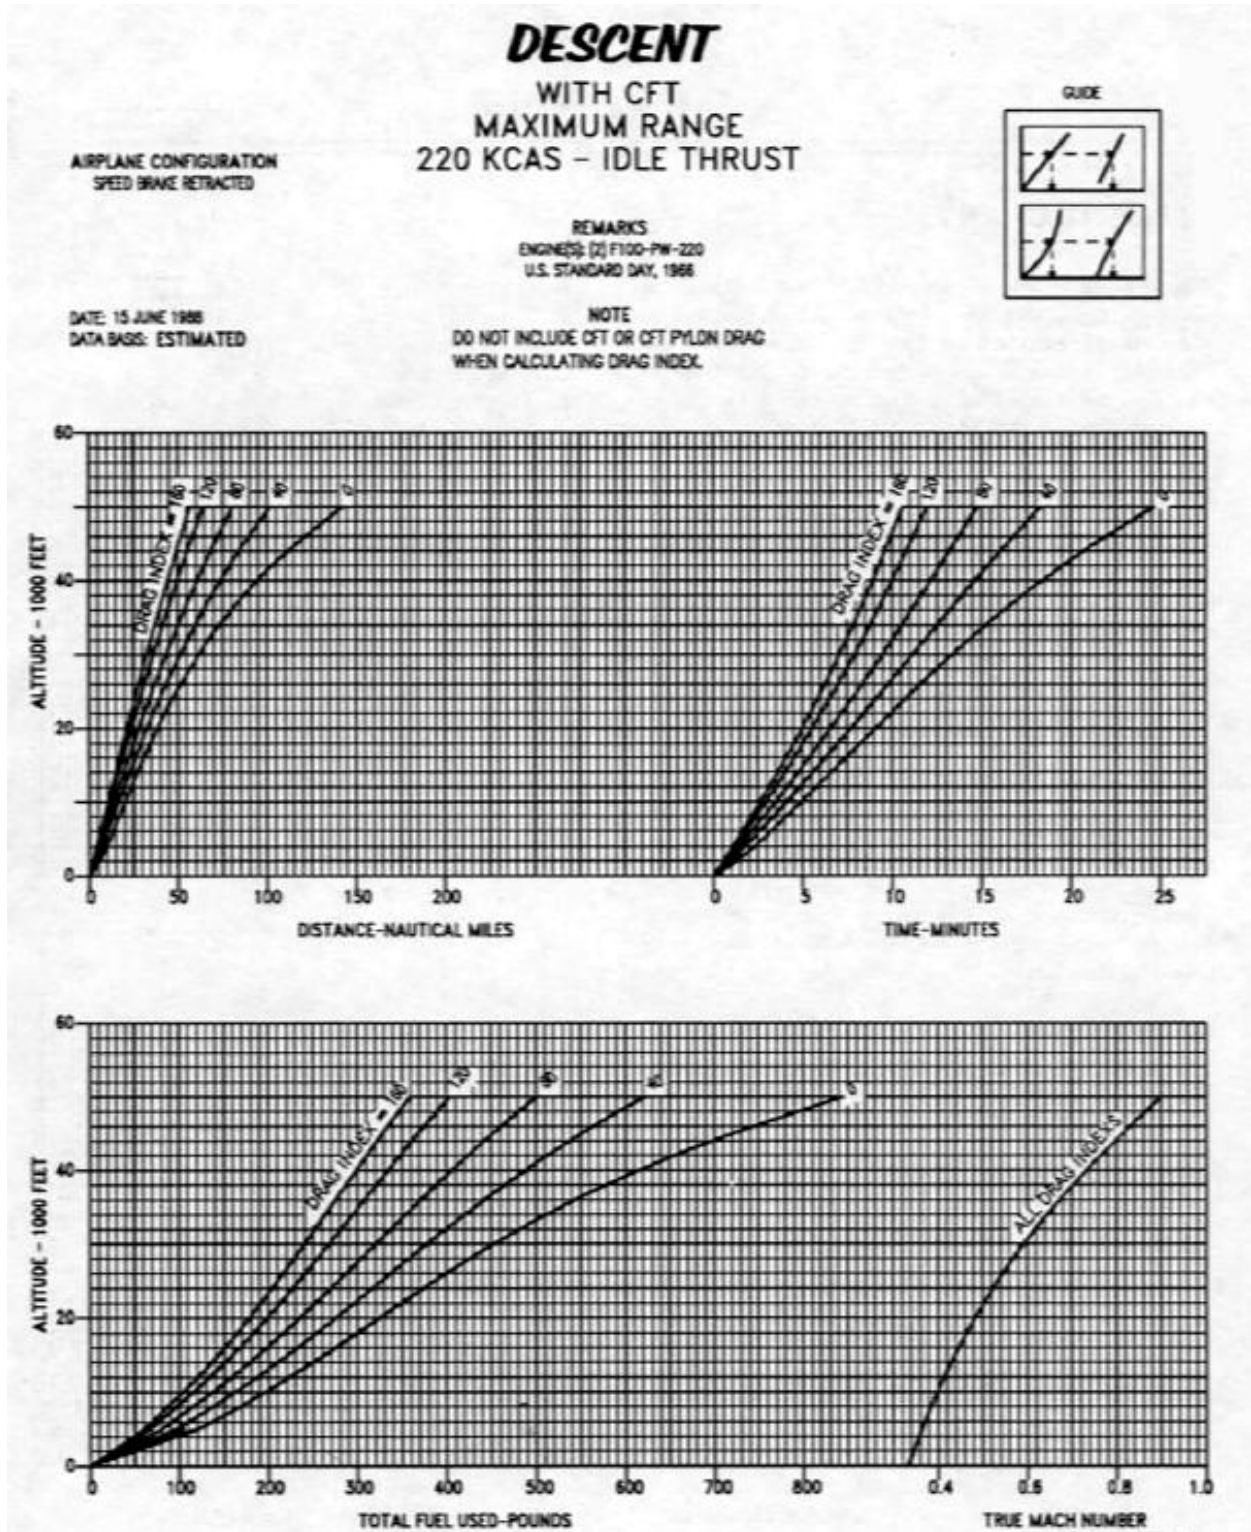

Figure A6-1
- USE FIGURE A6-1 TO DETERMINE EFFECTIVE GROSS WEIGHT FOR A BANKED TURN.
The Descent charts (figures A6-1 to A6-5) present distance, time, total fuel used, and Mach number in the descent. Incremental data may be obtained for distance, time, and fuel by subtracting data corresponding to level-off altitude from the data for the original cruising altitude.